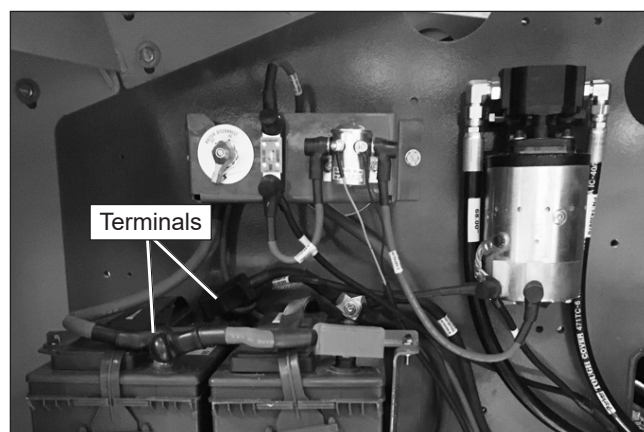

Figure 7.4 – Batteries
Electrical power is supplied from two 550 CCA, 12 volt batteries. The batteries are under the engine cover on the right side of the machine (refer to Figure 7.4). The batteries supply 12 volt DC electrical power to operate the aerial platform electrical and electrohydraulic components, including the emergency power system.
1. Check the top of the batteries, the terminals, and cable ends. They should be clean and free of corrosion (refer to Figure 7.4).